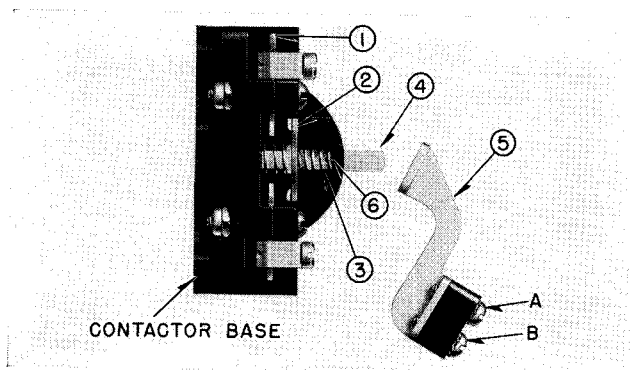
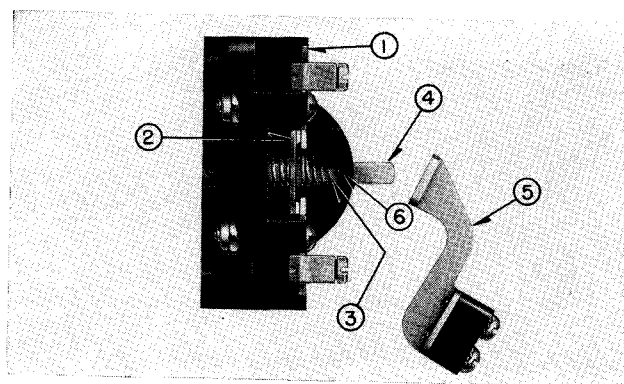

FIG. 2. Normally Open Interlock
FIG. 3. Normally Closed Interlock
This contactor comes equipped with one normally open interlock. By removing this interlock, shown in Fig. 2, and reassembling parts 1, 2 and 3 per Fig. 3, the interlock is changed from normally open to normally closed contact. The change is simplified by first placing the contactor in the normal vertical operating position and by proceeding as follows:
1. Swing arm (5) out of way by removing screw A and loosening screw B. (See Fig. 2).
2. To detach upper spring (3) from plunger (4) compress inturned end of spring against contact bar (2) and rotate spring until it disengages hole (6).
4. Operate reassembled interlock by hand to check freedom of moving parts before reassembling arm (5) into original position.